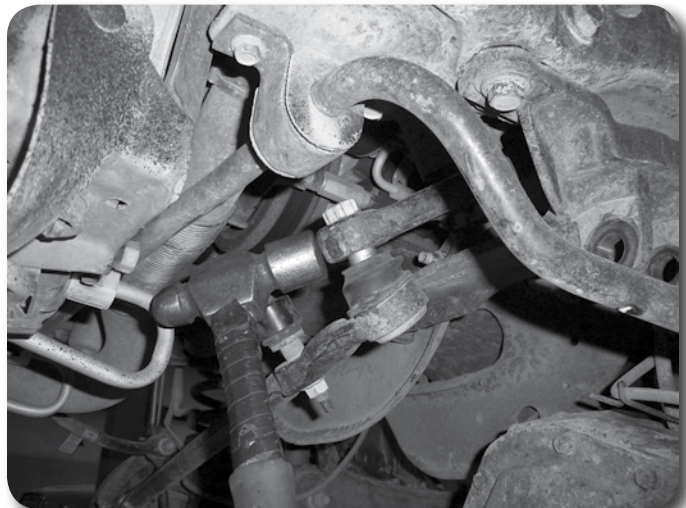

Figure 7
11. Disconnect the steering drag link from the pitman arm. Remove the cotter pin and castellated nut cap. Remove the nut and thread back on by hand a couple turns. Strike the end of the pitman arm near the drag link end to dislodge the taper from the pitman arm. **Figure 7** Remove the nut and the drag link from the pitman arm. Save all hardware.